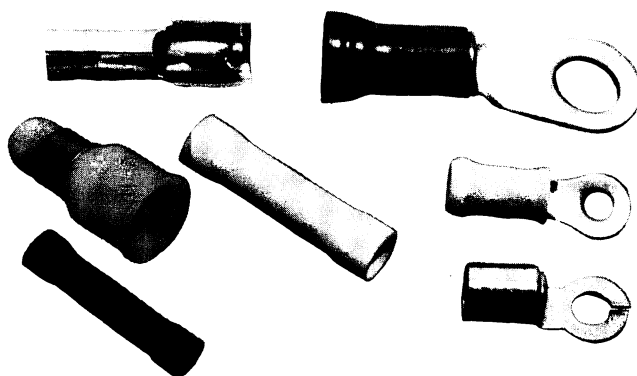

Fig. 22-13 Seven typical electrical connectors
3. Use good mechanical electrical connections, such as soldering or commercial connectors (Fig. 22-13). Twisting two wires together and taping will give you trouble sooner or later.